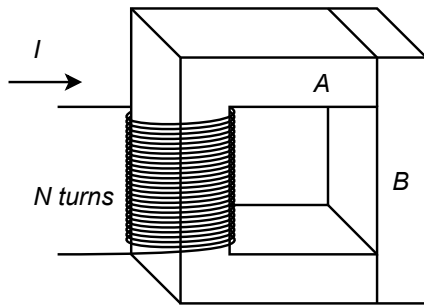

Figure 10.2
7. In the magnetic circuit shown in Figure 10.2, assume the cross section is 1 cm by 1 cm. Section A is sheet steel with a path length of 6 cm. Section B is cast steel with a length of 2 cm. There are 500 turns on the winding. Determine the current to establish a flux of $5E-5$ webers.
8. In the magnetic circuit shown in Figure 10.2, assume the cross section is 1 cm by 1 cm. Section A is sheet steel with a path length of 6 cm. Section B is cast steel with a length of 2 cm. Determine the number of turns on the coil to establish a flux of $6E-5$ webers with a current of 50 mA.